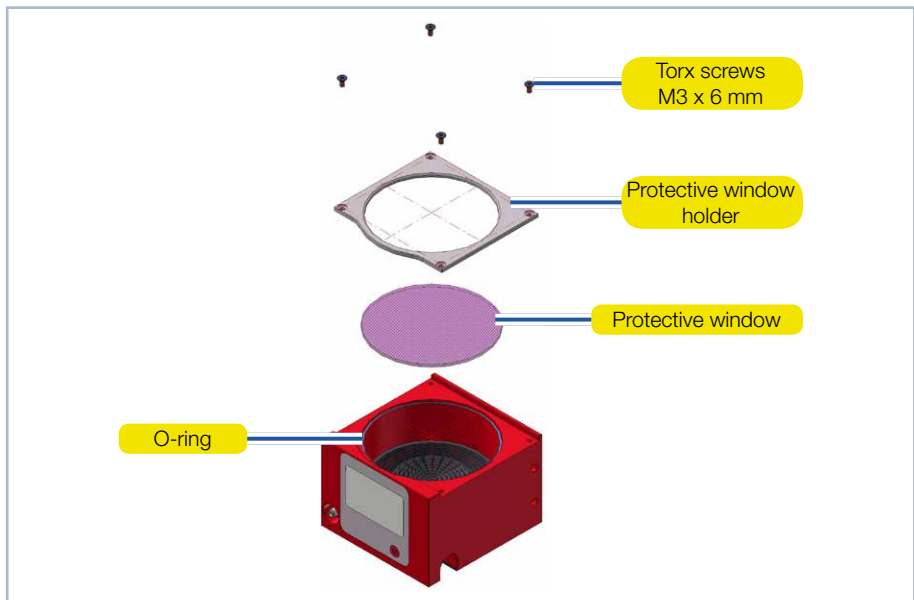

Fig. 16.1: Exchanging the protective window on the Cube L
3. Place the device as shown in Fig. 16.1 on page 47 and carefully remove the protective window holder upwards.
6. Place the protective window holder according to Fig. 16.1 on page 47.